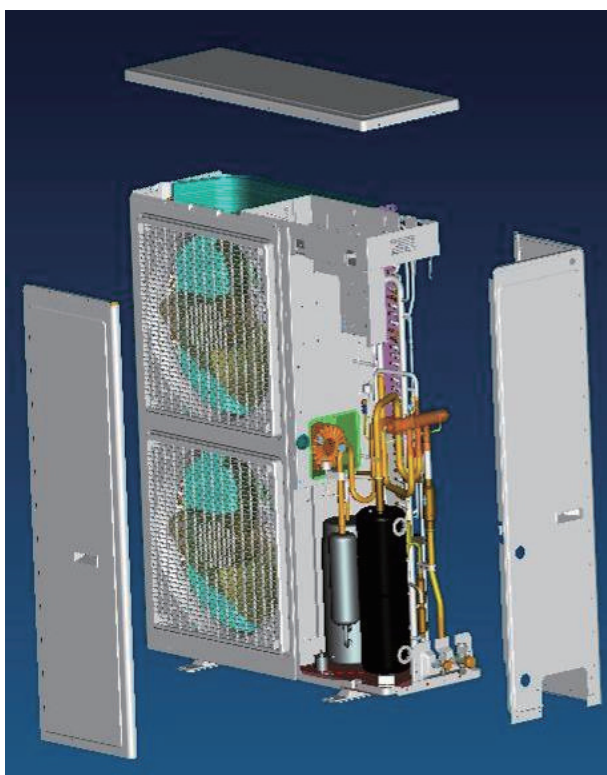

Fig. 2
- Loosen the two tapping screws, and remove the cover, the front side plate and right side plate.[ Fig. 2]